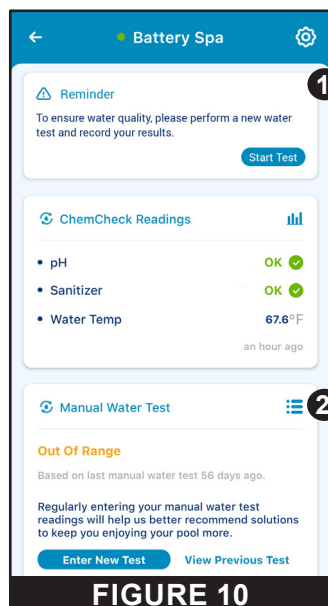

FIGURE 10
Any time the Manual Water Test tab (2) displays OUT OF RANGE a manual water test should be performed and recorded. A reminder recommending a manual water test will also appear on the ChemCheck Dashboard if a test has not been entered for two weeks. See **Figure 10**.
1. At the ChemCheck Dashboard, press START TEST inside the Reminder tab (1) or ENTER NEW TEST inside the Manual Water Test tab (2). See **Figure 10**.